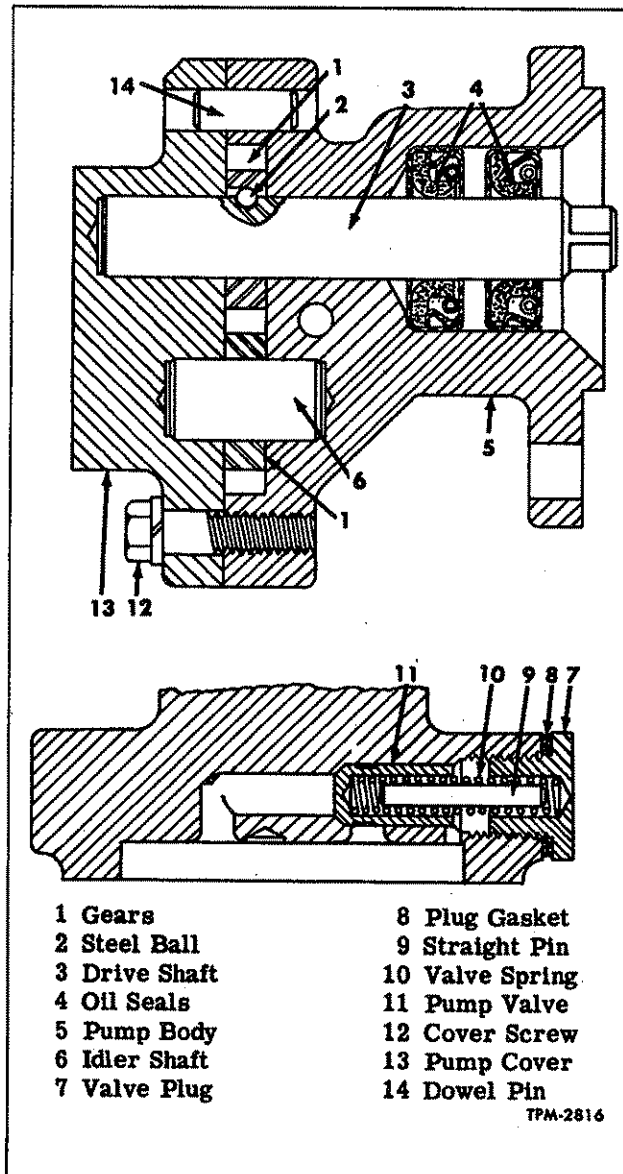

Figure 24—Fuel oil Pump Assembly
The fuel pump shown in figure 24 is positive displacement gear type.
Refer to figures 24 and 28, then proceed as follows:
4. Position drive gear over drive shaft with open end of ball slot toward cover. (Fig. 24).